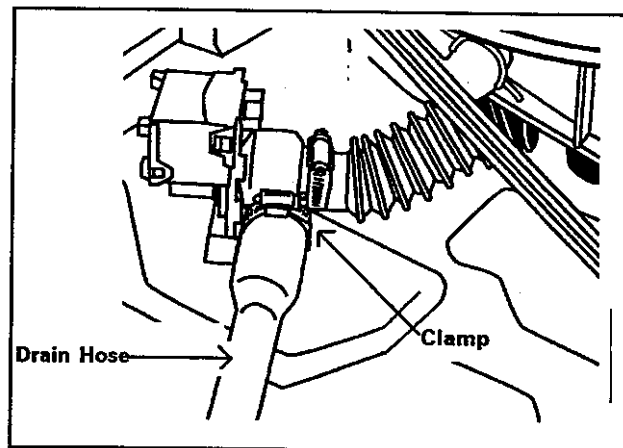

Figure 6-11
4. With access into the machine compartment, spread a towel under the connection of the drain hose to the pump. Loosen the clamp and remove the drain hose (**Figure 6-11**).